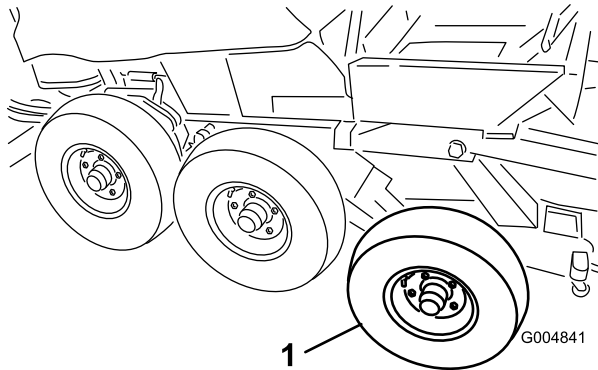

Figure 122
34. Remove the front and center tires from the winter assembly (Figure 122).